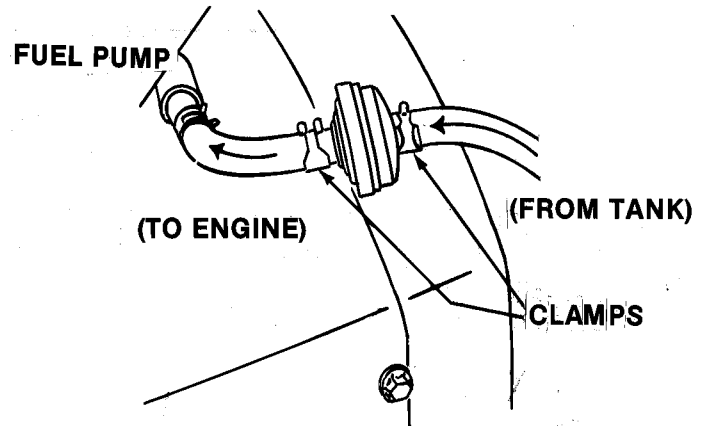

FIG. 19 - FUEL FILTER LOCATION
- **SERVICE FUEL FILTER:** as instructed on page 9, FIG. 19.
The in-line filter (between fuel tank and engine) protects the engine from damage due to gasoline impurities. Also, check the hose clamps for any leakage. Replace the filter (SNAPPER #1-4359) before the screen becomes completely clogged with sediment. When the filter appears dark (in the screen area), and/or if the engine becomes "starved" for fuel - it will not accelerate properly, misses, or stalls under load, the filter should be replaced. Refer to FIG. 19.